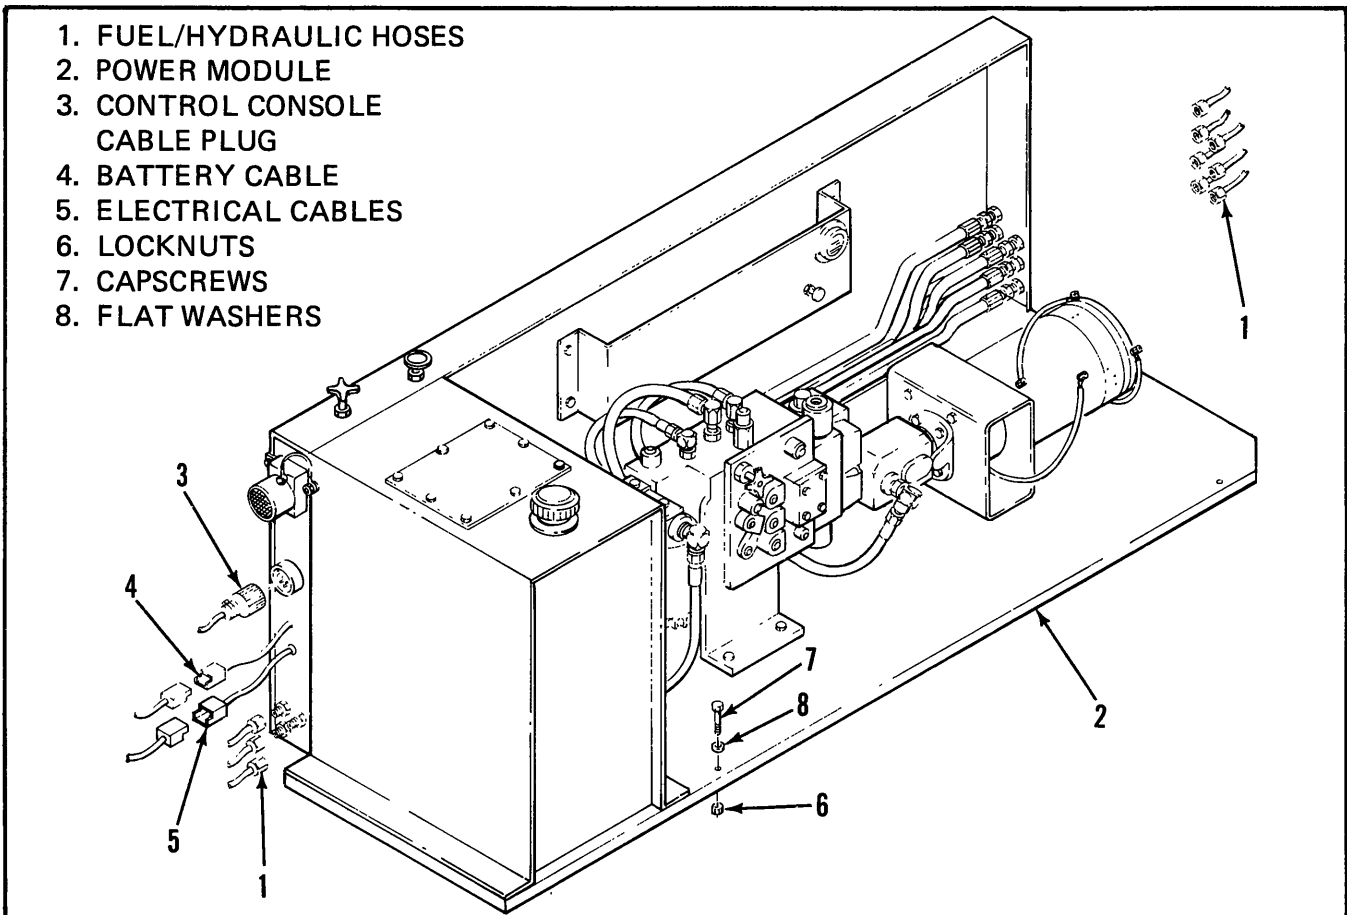

Figure 5-3. Power Module Removal
a. Removal (Figure 5-3). Perform the following procedure to disconnect and remove the power module.